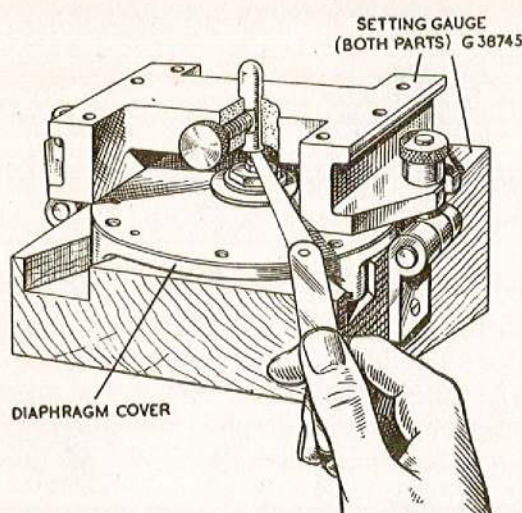

Fig. 28. Diaphragm tappet clearance check
2. Invert the detached diaphragm cover and place on the other half of the setting gauge (fig. 28) ; remove the tappet clearance gauge from the pump housing studs and place in the inverted position on the lower half of the gauge. The dowel pins in the tappet clearance gauge must be in correct alignment with the holes in the diaphragm cover.
the diaphragm cover must then be measured by using a feeler gauge (fig. 28) ; the clearance should be between 0.017 in. and 0.019 in. This gap will be found to have reduced somewhat after service, and